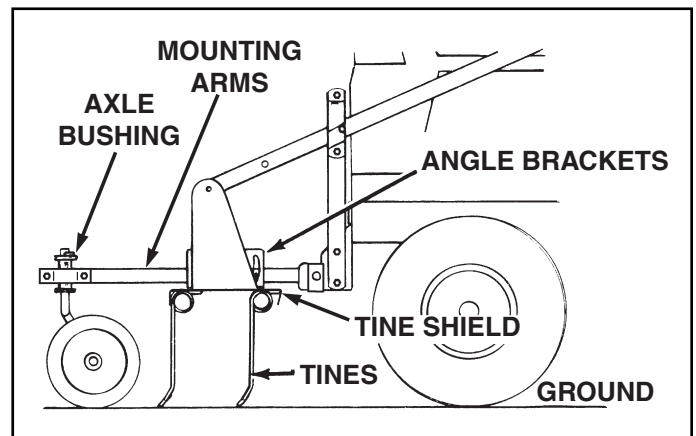

FIGURE 20
- Adjust tine shield until spring tines come in contact with level surface, keeping front and back tines at same height. Tighten mounting arm carriage bolts on top of dethatcher shield to lock adjustment. See figure 20.
- If you need more adjustment, try moving the axle bushing up or down between the mounting arms. Be sure to retighten the bolts securing the bushing. See figure 20.